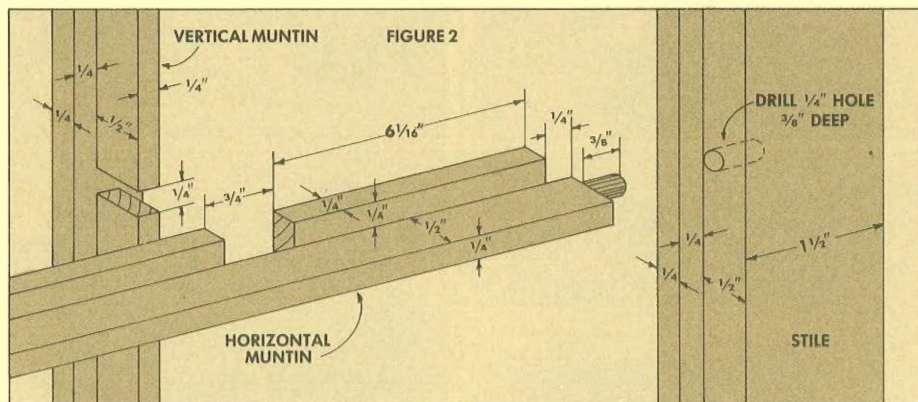

FIGURE 2
2) The notches in the two front rails (shown in Fig. 2) should be cut at the same time by clamping them together as they're cut. This insures the notches will match up when installed.
The router bit may argue with you about doing this drilling operation (drilling is not really in its contract), but it will get the job done. After drilling, the cheeks of the mortise are cleaned up by simply moving the stile back and forth as in a typical routing operation (Fig. 2). One note: the cutting edge on the router bit is only  $\frac{3}{8}$ " long, but the bit will cut deeper (to the  $\frac{1}{4}$ " depth needed) if it's done in stages.
6) Finally, the wood block is positioned on the bottom of the template and  $\frac{3}{4}$ " x  $\frac{3}{4}$ " cleats are tacked around the edges (Fig. 2) to hold the template in place while routing.